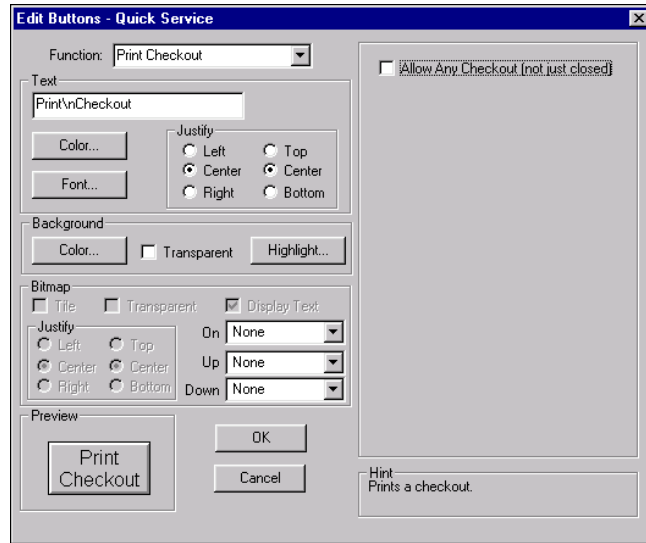

Figure 5-93 Print Checkout Button Function
1. Select **Print Checkout** from the **Function** drop-down list. An additional option displays, as shown in Figure 5-93: